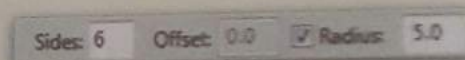

Figure 16: Moving the polygon
- c. To place it in the correct position, select the polygon and drag (Figure 16).